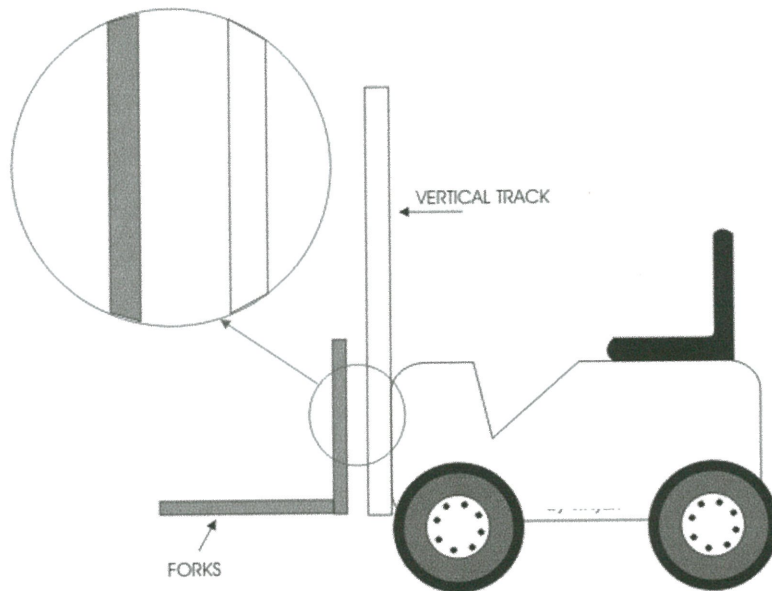

FIGURE Q5(a)
- Q5** (a) **Figure Q5(a)** shows a fork lift truck. It is used to lift pallets, complete with their heavy loads. The forks on the front of the truck move up and down the vertical track.